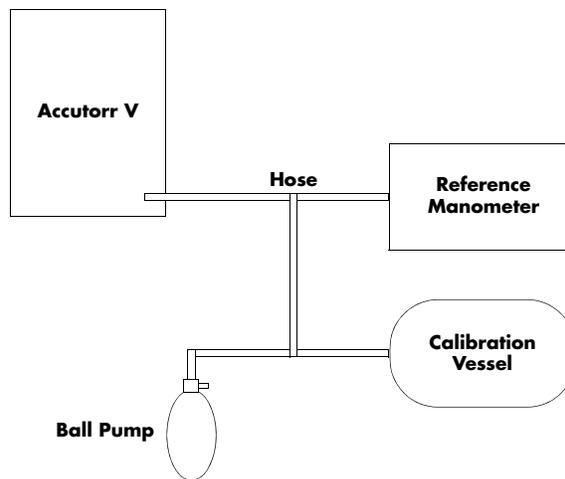

FIGURE 6-8 NIBP accuracy test configuration
1. Attach the calibration vessel, ball pump, and reference manometer as shown in FIGURE 6-8.